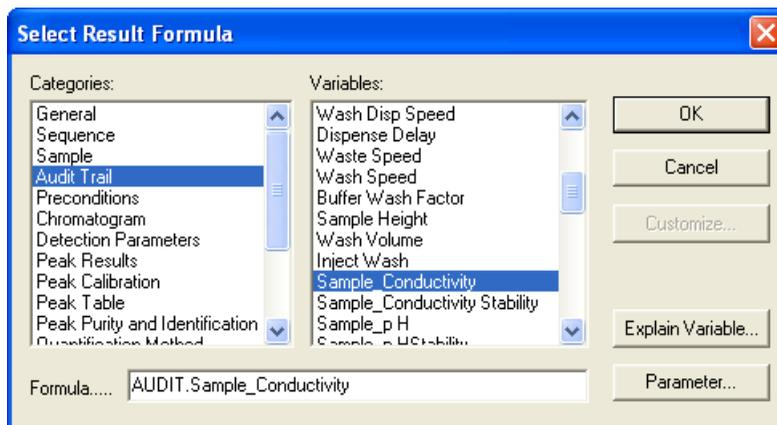

Figure 33. Chromeleon 6.8 Select Result Formula Dialog Box
- In the **Select Result Formula** dialog box, under **Categories**, select **Audit Trail**. Under **Variables**, select **Sample_Conductivity** or **Sample_pH** (see Figure 33).